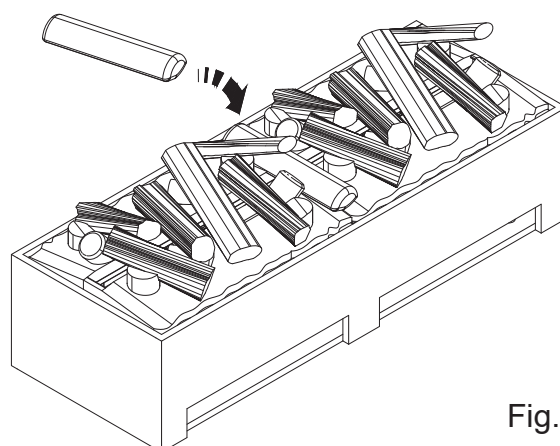

Fig. 16
5. Each log fuel bed is supplied with a loose non LED log. For single CAS500P installations, this can be placed on top of the fuel bed or stored away with the packaging. For CAS1000P or multiple product installations, the loose log can be placed on the join in the centre between two fuel beds (Fig 16).